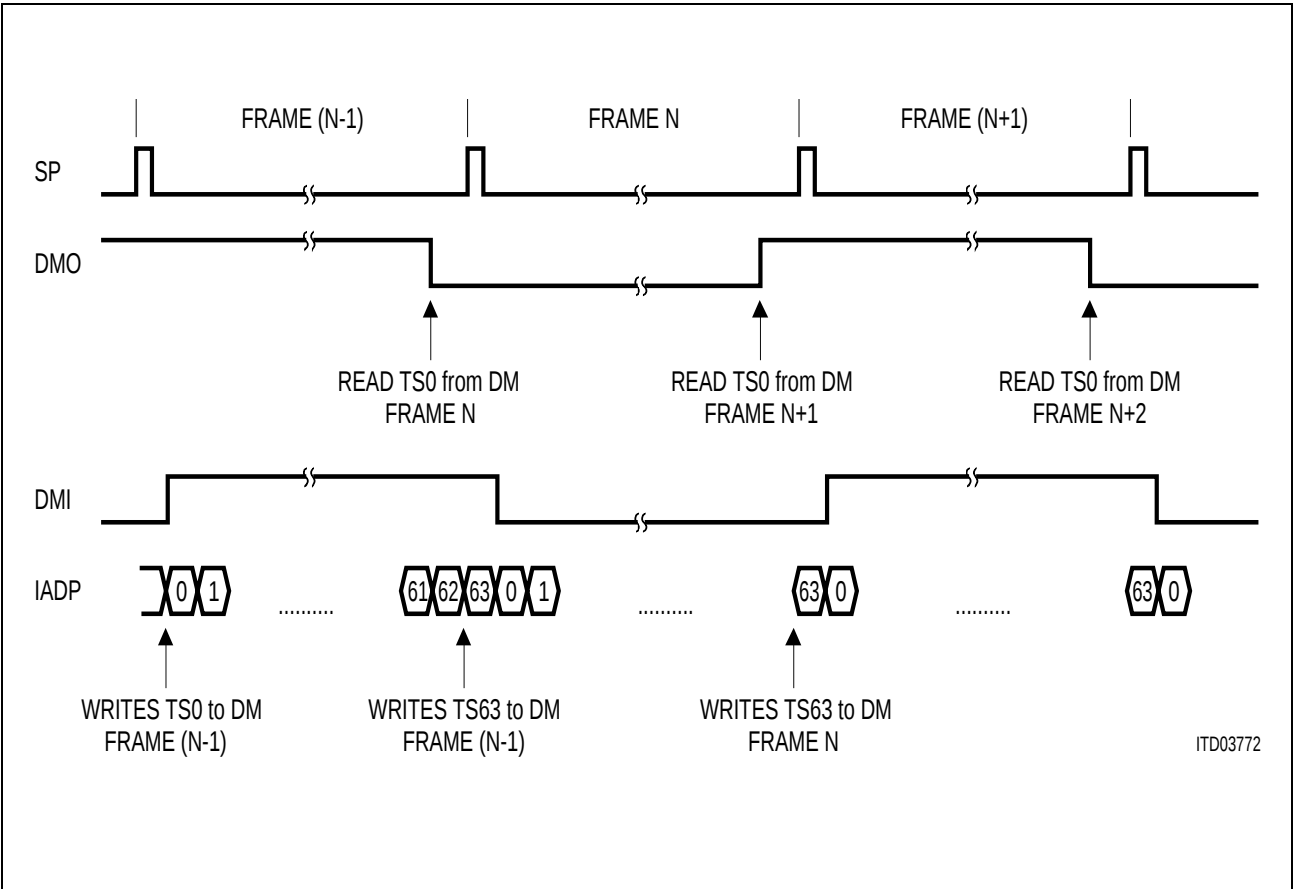

Figure 6
For outputting, the connection memory (CM) is read in sequence. Each location in the CM points to a location in the data memory. The byte in this data memory location is transferred into the current output time-slot. The read access to the CM is controlled by an output counter. An additional bit (D12) in each location of the CM controls the access to the data memories DM0 and DM1. Three address pointers – two switching aligned to the input frame (DMI, IADP), one switching aligned to the output frame (DMO) – are working in conjunction with D12 implementing the constant/minimal delay function (**see figure 6**).